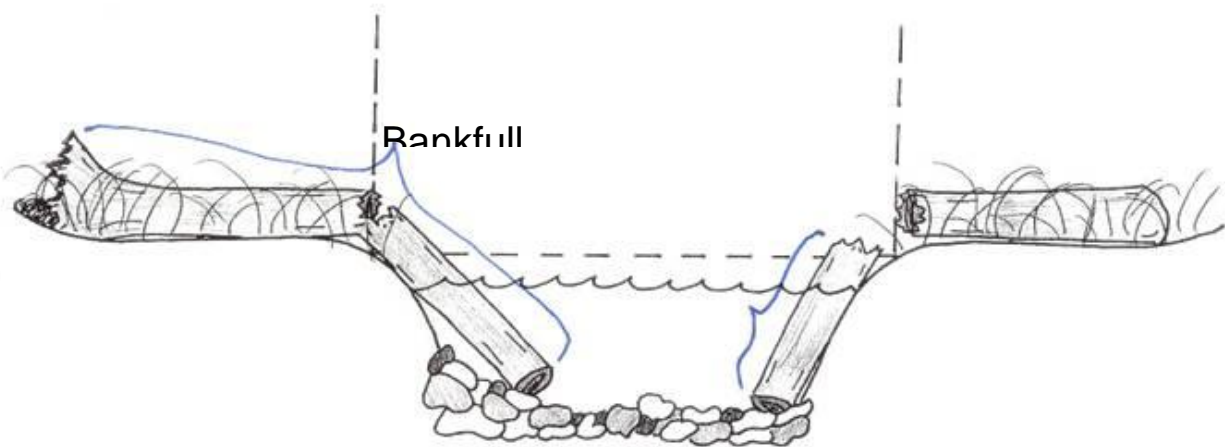
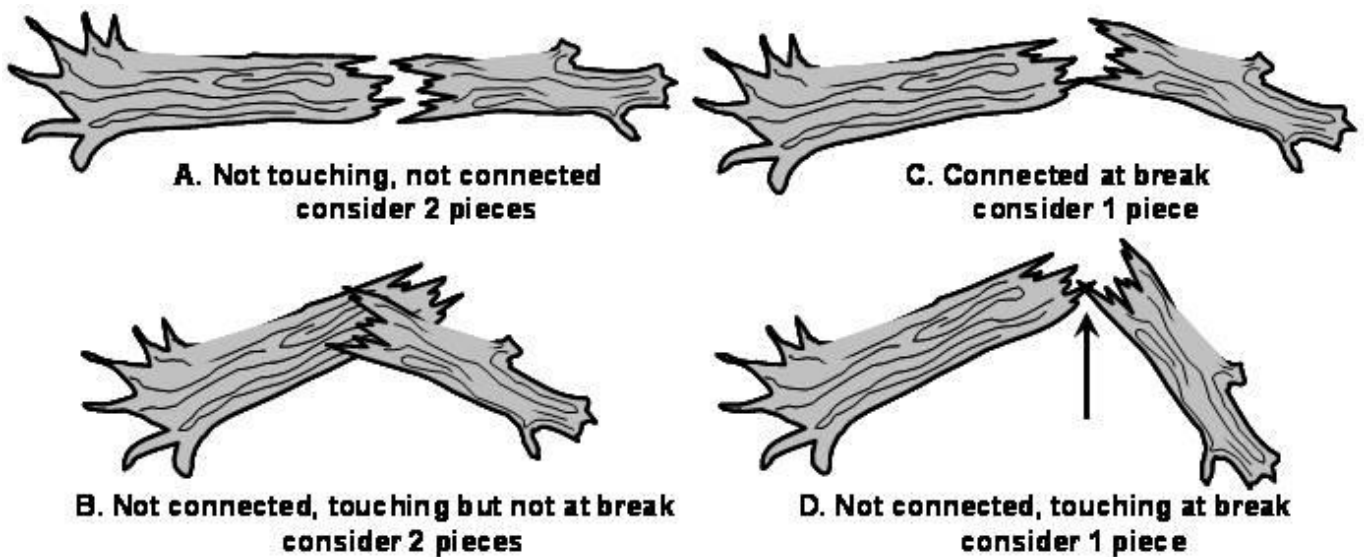

Figure 43: Examples of how to measure the length of broken pieces.
Figure 44: Is it one piece or two? Variations of touching vs. not touching along the break.
- Some pieces crack or break when they fall. Include the entire length when the two pieces are still touching at any point along the break. Treat them separately if they are no longer touching along the break (Figure 43 and Figure 44).